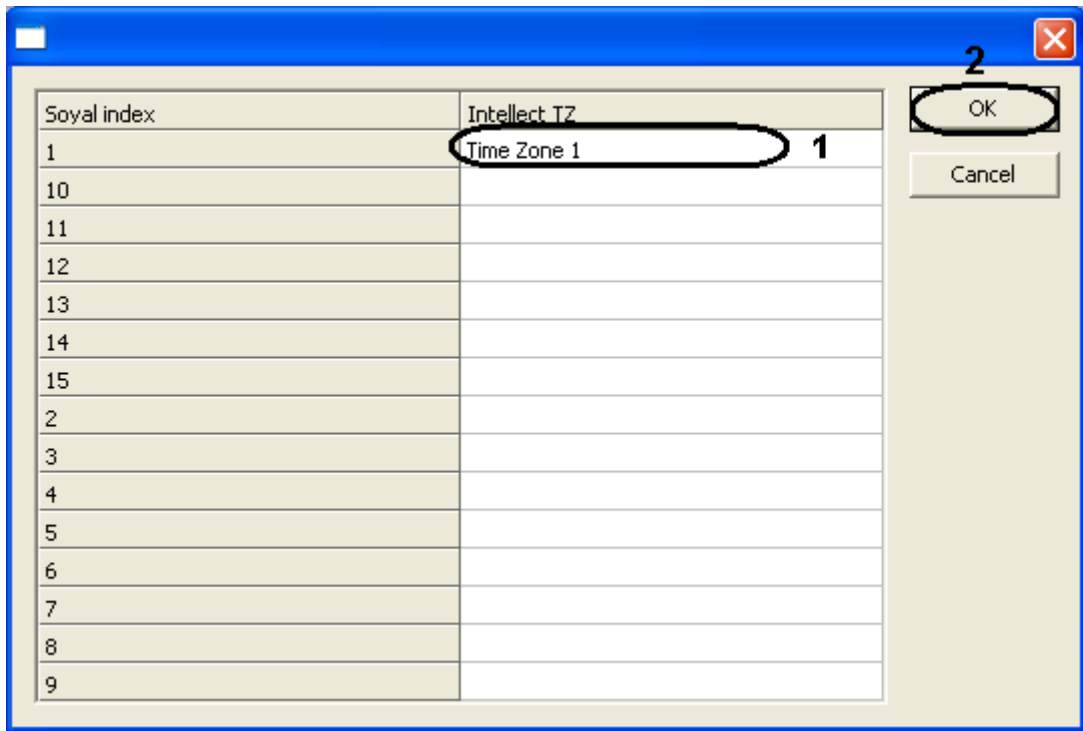

Figure 2.4—3 Setting up Time Zones
10. Click **Set up Time Zones** to configure the matching between time zones of device and time zones of *Intellect Server* (Figure 2.4—2, 9) .
- 10.1 In the **Intellect TZ** column select the time zone in *ACFA Intellect* corresponding to the time zone of *Soyal* device (Figure 2.4—3, 1).
- 10.2 Click **OK** to confirm changes (Figure 2.4—3, **2**).
11. To save changes, click the **Apply** button (Figure 2.4—2, **10**).